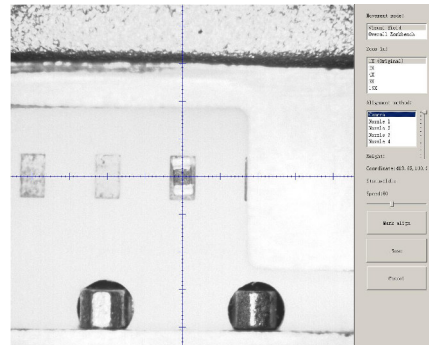

Fig.5-2
① Pick position X/Y:First have to lock the position of component on the feeder(See fig.5-2),once saved the modification, the XY data will automatically change to the ones after alignment.
② Pickup Angle:The initial default angle is 90 degrees, support to do modifying the value in order to change the mounting angels for wholly feeder if needed.
③ Footprint:Select corresponding footprint,when use the function”Vision Alignment”, will refer to the values in date base.
④ Placement speed:Control the placement speed for the feeder by adjust the speed values.
⑤ Vision Alignment:Choose corresponding alignment method under this item.
⑥ Pick height:Control the pick height by dragging the sideward slider.